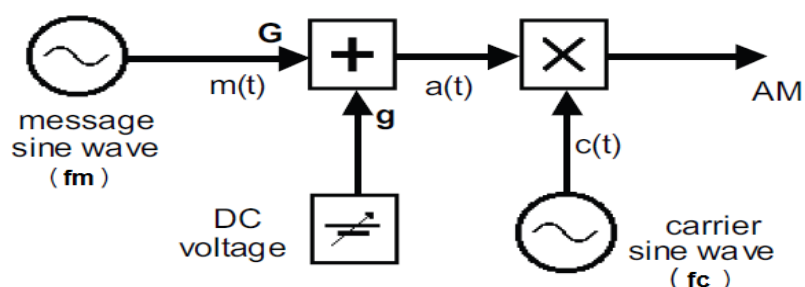
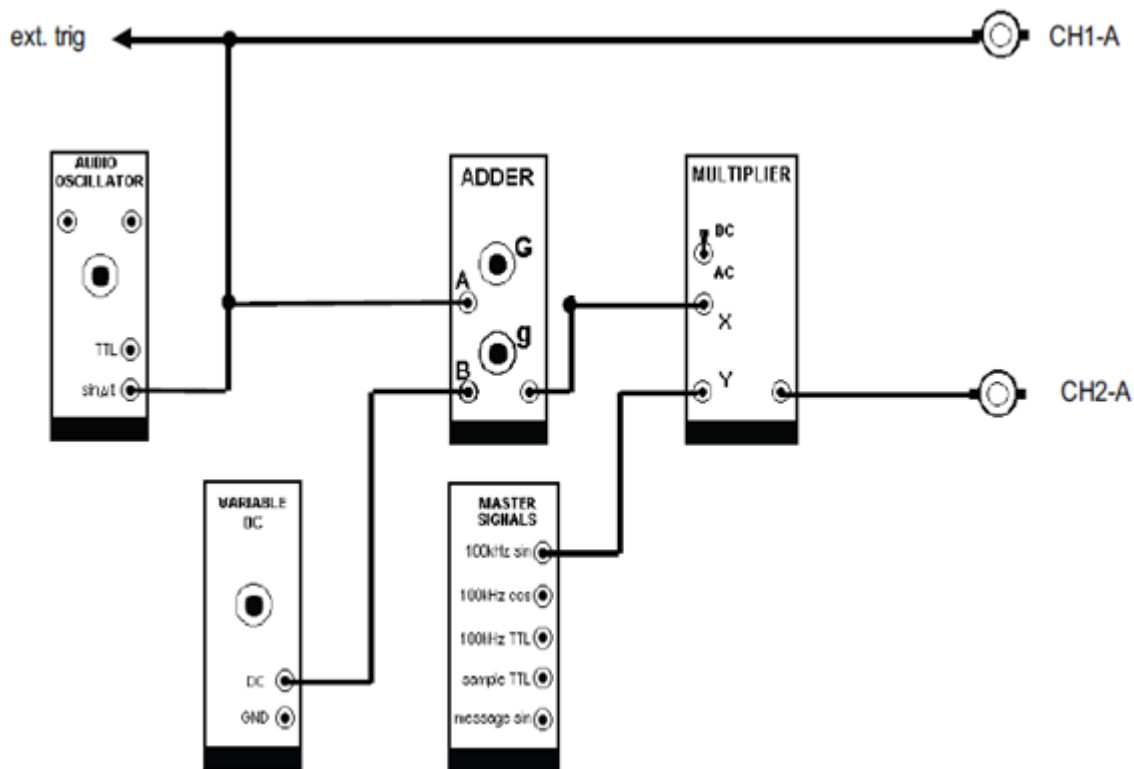

Figure .1 AM Generation Block Diagram
Figure .7 The TIMS Model of The Block Diagram of Figure 2
A block diagram, showing how equation (1) could be modelled with hardware, is shown in Figure 1 below.
1. Construct The block diagram of Figure 1, which models the AM equation, by using TMS as shown in figure 7.